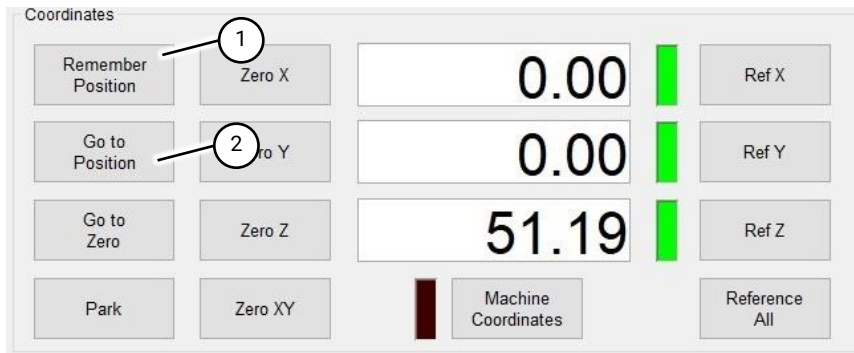

Fig 79 Coordinates pane
1. The 'Remember Position' button on the Coordinates pane (Fig 79 (1)), saves the current torch position. To recall the position, press the 'Go to Position' button (Fig 79 (2)). The torch will move to the remembered position. This is useful for remembering datum positions for repetitive work.